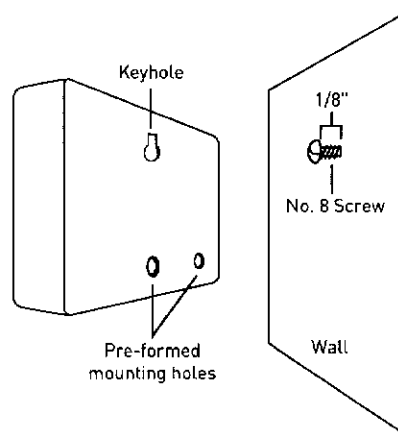

Figure 2: Hang timer on screw using keyhole
- Slip the HRC 100 C over protruding screw (using keyhole slot in back). *See figure 2*
- Drive a No. 8 screw through one of the two pre-formed holes located in lower back cabinet. *See figure 2*